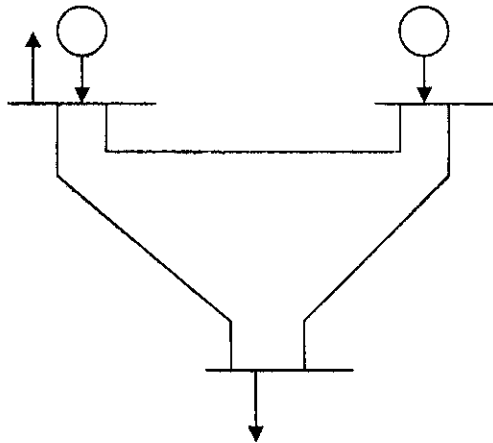

Fig. 3
3. Consider the three-bus power system shown in Fig. 3. Each of the three lines has a series impedance of $0.026 + j0.11$ p.u. and a total shunt admittance of $j0.04$ p.u.. The specified quantities at the buses are shown in Table 1.